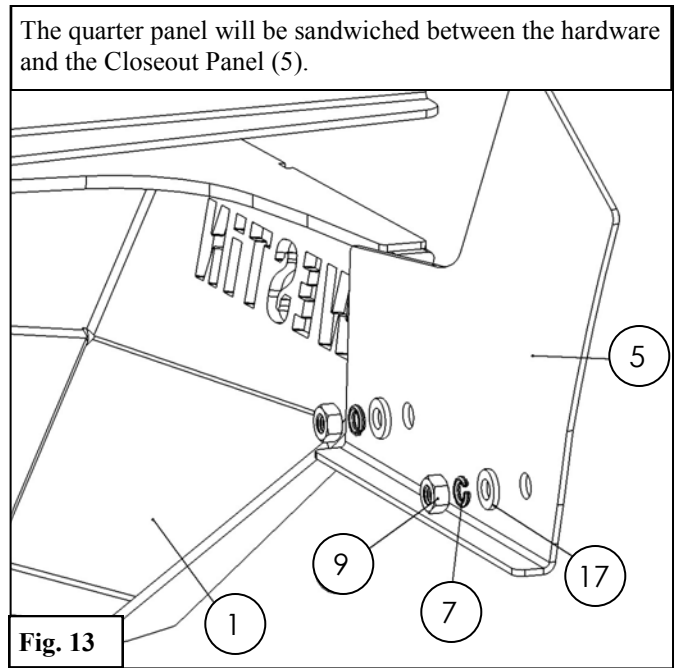

Fig. 13
- A. Obtain the Bearing Kit (3).
- D. Insert the bearing race into the tube with the tapered side facing up. **See Figure 13.**
- F. Place the bearing into the race as oriented in **Figure 13.**
- G. Place the large bearing washer on top of the bearing. **See Figure 13.**
- H. Using a soft hammer, tap the seal into place until flush with the bottom of the spindle tube on the tire carrier. **See Figure 13.**